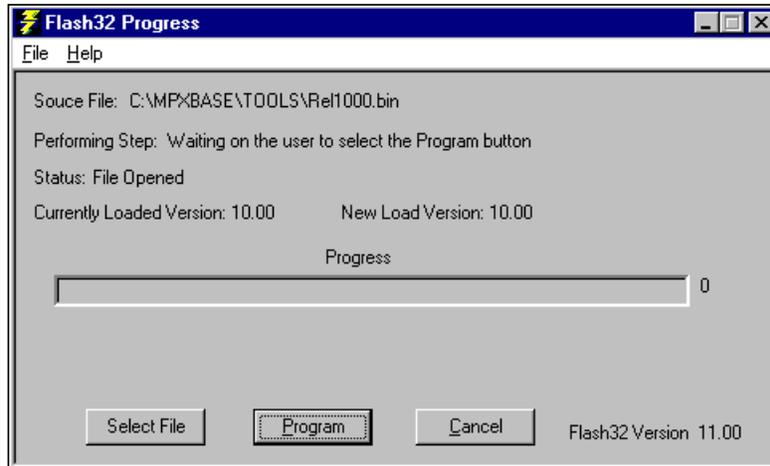

Figure 282. Flash32 Progress dialog box (Program)
4. Tab to the list of files and directories, use the arrow keys to select the desired file version, and press **Enter** to return to the Flash32 Progress window, shown in Figure 282.